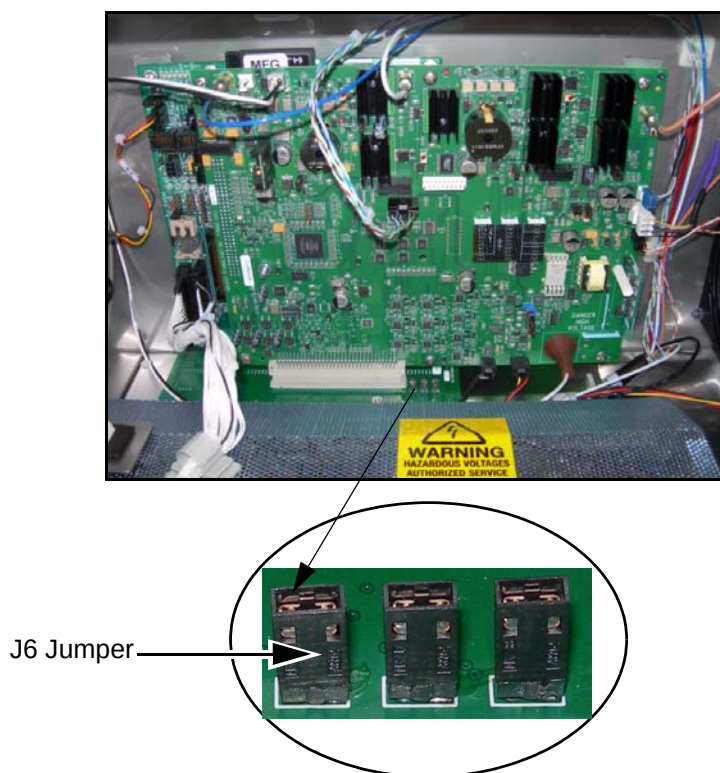

Figure 3-6: J6 Jumper
- 5 Remove the J6 jumper on the bulkhead board (Figure 3-6 on page 3-12).